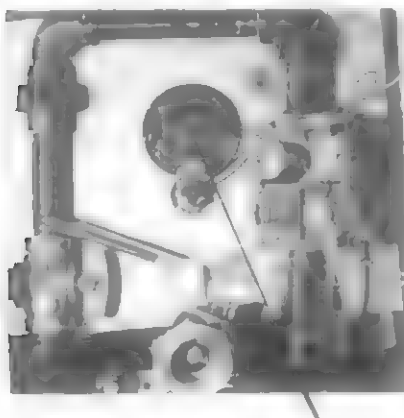

Fig 1
- 2) Use an Allen wrench to loosen set screw at the side of the thermostat knob. Remove the thermostat knob. See Figure 1.